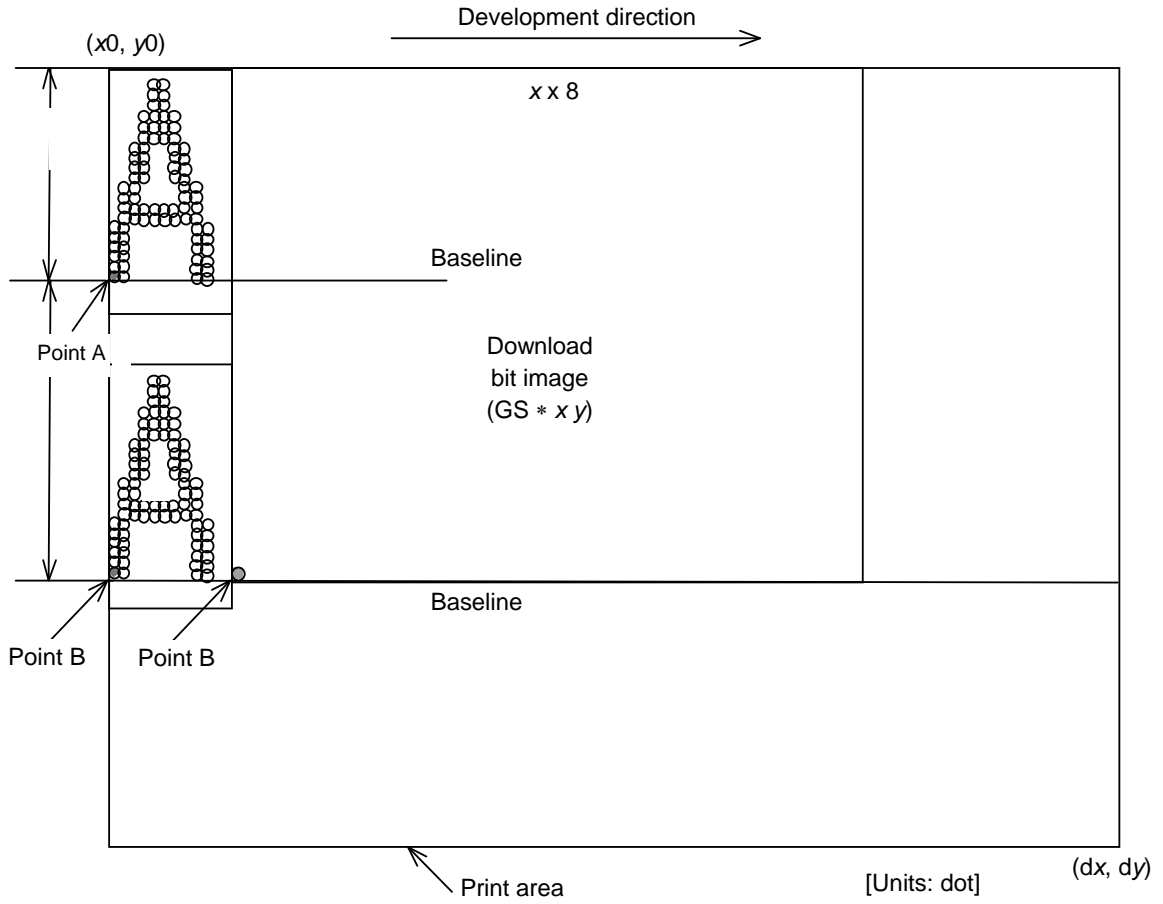

Figure 4.10.4 Downloaded Bit Image Developing Position
- 4) The default amount of line spacing is set to 30 dots in the vertical direction. If print data for the next line contains extended characters that are higher than double-height characters, bit images taking up two or more lines, or bar codes higher than normal characters, the amount of line feeding may be insufficient, resulting in overlapping of the characters' higher-order dots with the previous line. To avoid this, increase the amount of line spacing. The line spacing in Figure 4.10.4 requires 27 dots (54 pitch) or more.